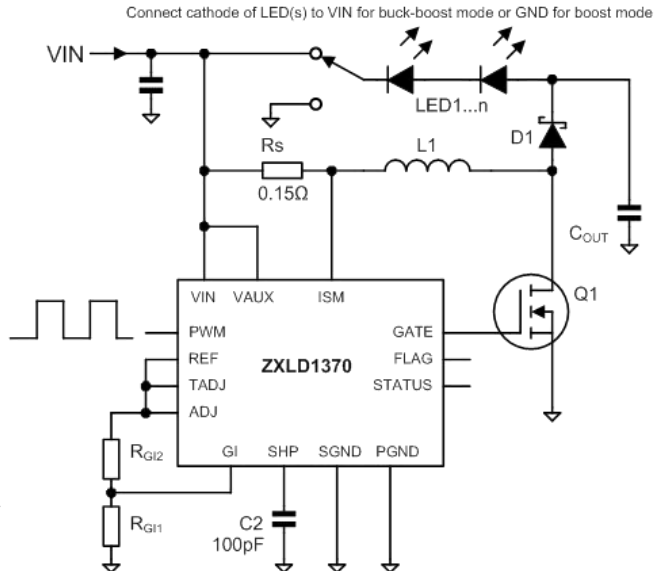

Figure 23 Boost and Buck-Boost Configuration
b) Boost and Buck-Boost Modes – the most simple boost/buck-boost circuit shown in Figure 23
The average current in the LED, I_{LED} , is always less than I_{RS} . The feedback control loop adjusts the switch duty cycle, D, to achieve a set point at the sense resistor. This controls I_{RS} . During the interval t_{OFF} , the coil current flows through D1 and the LED load. During t_{ON} , the coil current flows through Q1, not the LEDs. Therefore the set point is modified by D using a gating function to control I_{LED} indirectly. In order to compensate internally for the effect of the gating function, a control factor, GI_ADJ is used. GI_ADJ is set by a pair of external resistors, R_{GI1} and R_{GI2} (Figure 23). This allows the sense voltage to be adjusted to an optimum level for power efficiency without significant error in the LED controlled current.